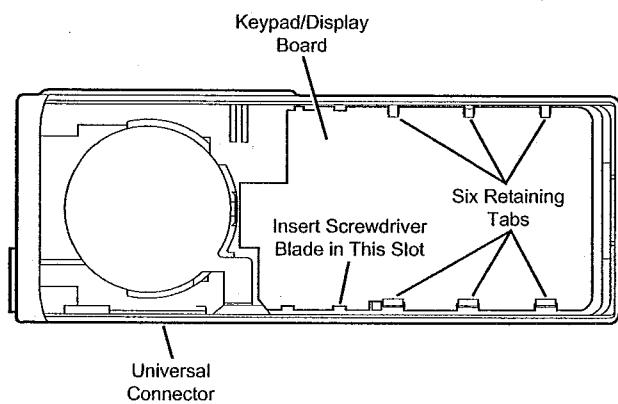

Figure 3.9
6. On front display model radios only, notice that the keypad/display board is secured to the front cover housing using six tabs, three small tabs on one side and three larger tabs on the universal connector side. Remove the keypad/display board by inserting a small flat-blade screwdriver in the circuit board slot provided (slot nearest the top retaining tab on the universal connector side of the radio, (See Figure 3.9). A slight prying action will release the keypad/display board. If applicable, remove the rubber keypad.